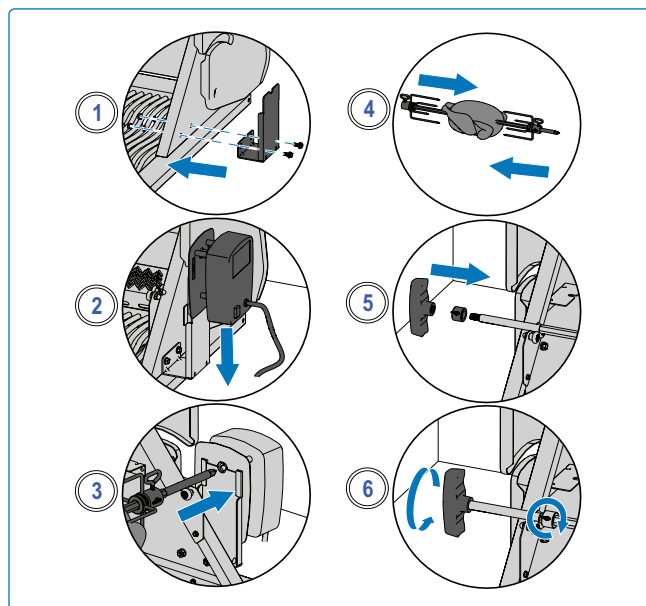

Fig. 17
5. Slide second rotisserie fork onto spit rod and push into chicken until all 3 chickens are squeezed together tightly. Tighten **(Fig 17)**.